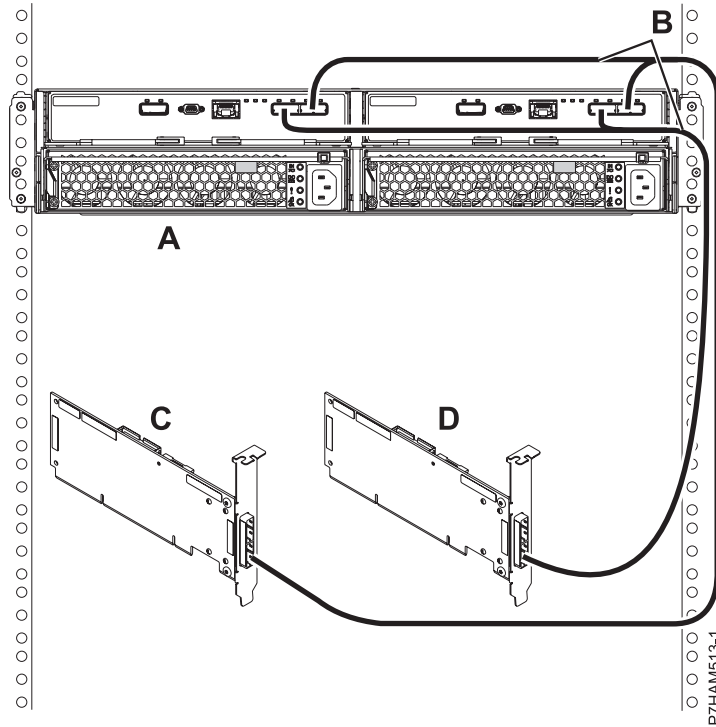

Figure 31. Mode 2 connection of one 58/87 disk drive enclosure by using YO cables to two independent SAS adapters
- i. Perform the mode 2 connection of one 58/87 disk drive enclosure (A) by using YO cables (B) to two independent SAS adapters as shown in Figure 31 on page 28.